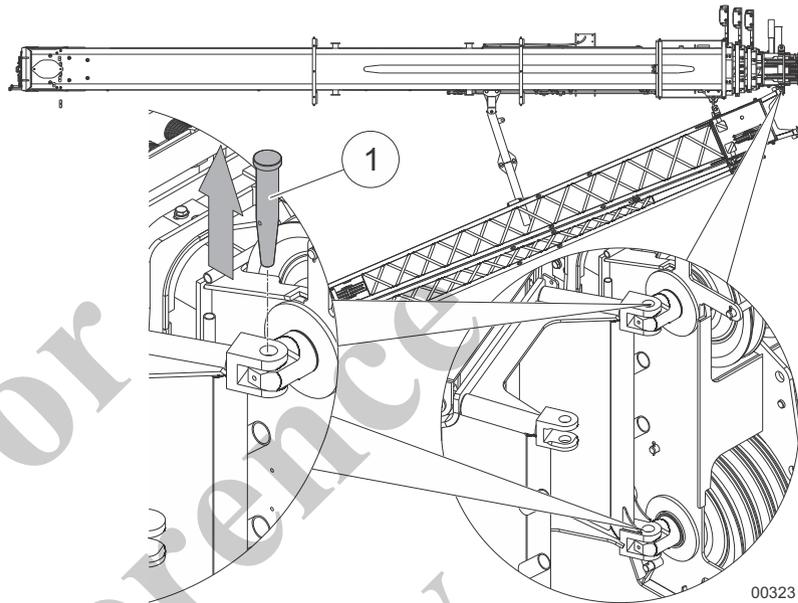

Fig. 146 Unbolting the fly boom on the boom head
| 24 | Release and drive out the bolts (1) in Fig. 146 on the right side of the boom. |